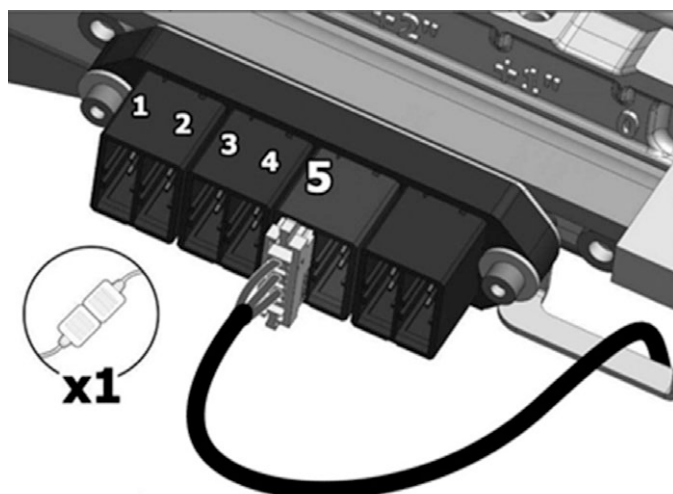

Figure 135. The Tilt Motor Cable is connected to the fifth position of the connector block.
5. The Tilt Motor Cable is connected to the fifth position of the connector block at the right hand side of the seat. See fig. 135.